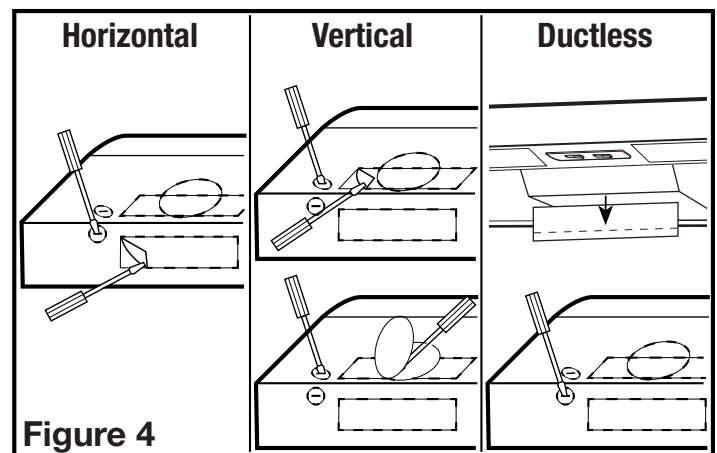

Figure 4
- 2a. **Horizontal or Vertical** - Remove the rectangular knockout by inserting a screw driver under the edge and break the tabs holding it in place. Peel back with pliers (**Figure 4**).
- 2b. **Ductless** - From inside the hood, depress the latches with your fingers before removing the shutter. Pull down on the tab in front of the fan blade. Bend the shutter at the creased area and break the top part of the shutter off and discard. Insert the remaining part of the shutter back into the slot (**Figure 4**).
- 2c. **7" Round** - Remove the round knockout located on the top of the hood by inserting a screw driver under the edge and break the tabs holding it in place. Peel back with pliers (**Figure 4**).
- Determine where the electrical service will enter the hood and remove the appropriate electrical knockout by inserting a screw driver into the slot and rocking back and forth until the knockout comes loose (Figure 4).